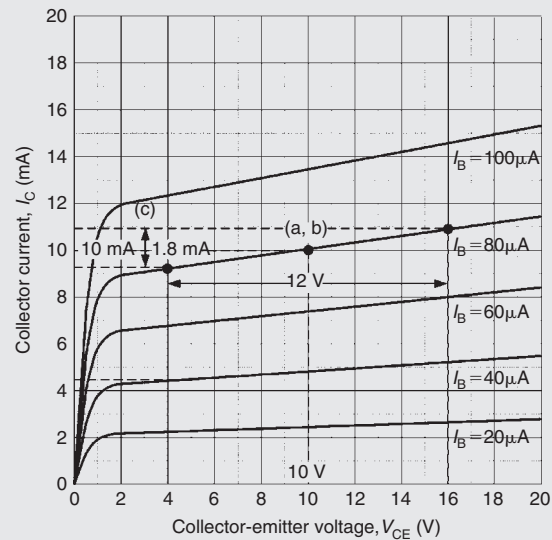

Figure 12.14
Problem 4. Figure 12.14 shows the output characteristic for an n-p-n silicon transistor. When the collector-emitter voltage is 10 V and the base current is $80 \mu\text{A}$, determine (a) the value of collector current, (b) the static value of output resistance, and (c) the dynamic value of output resistance.
- (a) From Fig. 12.14, when $V_{CE} = 10$ V and $I_B = 80 \mu\text{A}$, (i.e. point (a, b) on the graph), the **collector current, $I_C = 10$ mA**